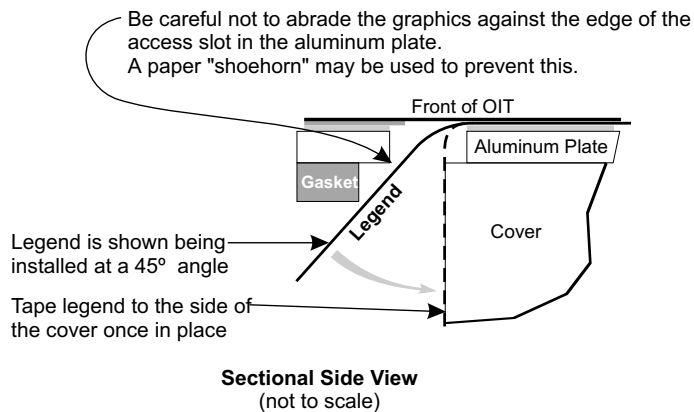

Figure 11 Custom Keypad Legend Installation
5. Slide in the new legend (refer to Figure 11).